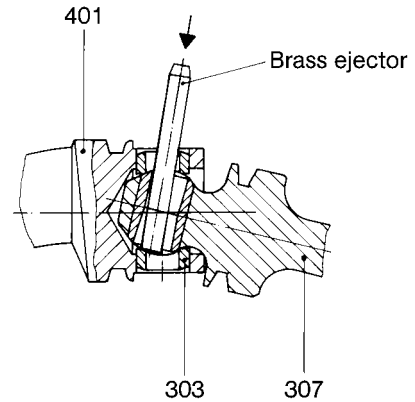

Figure 4: Dismounting the bushes for coupling rod pin.
- Drain the liquid to be pumped from the suction casing. For these purposes, screw out screw plug (502).
- Eject coupling rod pin (301).
- By means of a brass ejector, drive out the two bushes for coupling rod pin (303) by one half. For these purposes, incline coupling rod (307) (please refer to Figure 4 below).
- Remove hexagon nuts (609) and washers (610) from the tie rods (611).
- Withdraw discharge casing (504).
- Remove tie rods (611).
- Withdraw stator (402) from rotor (401).
**Note:** In case of stiffness, turn stator (402) simultaneously by means of chain tongs. For these purposes, fix drive shaft (118) and/or hollow shaft (125).
- For stators of plastic or metal, remove stator gaskets (403) and (404).